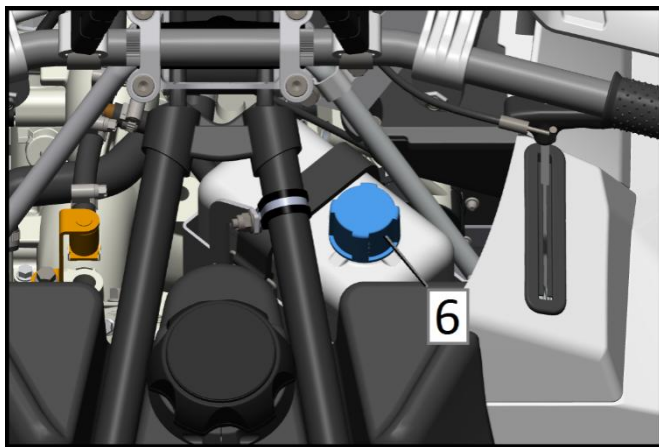

Fig. 3
1. Open the expansion tank cover (position 5, figure 3).